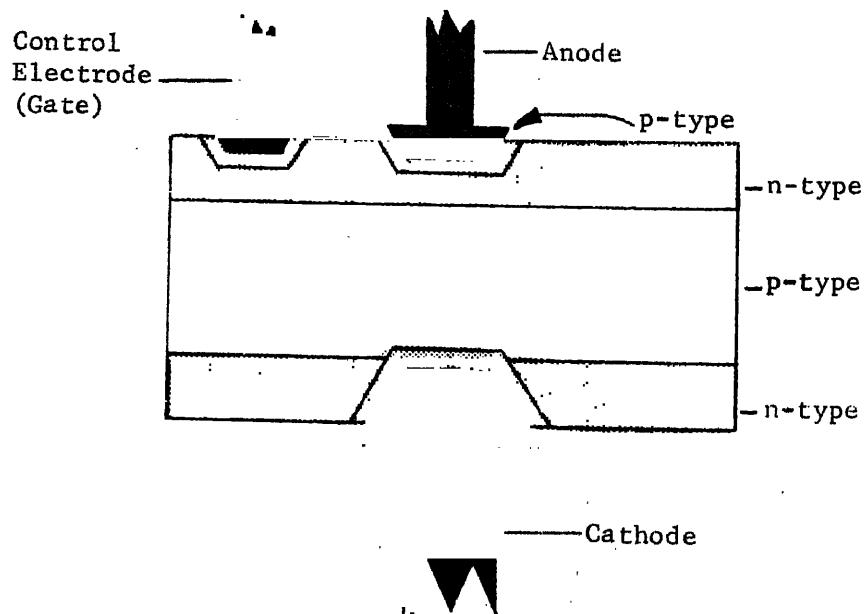

FIGURE 3: CONSTRUCTION OF A CONTROLLED RECTIFIER
14. The Silicon Controlled Rectifier (also called a PNPN device, Thyristor or Controlled Rectifier) is a four-layer semiconductor device, with a structure of the form shown below (figure 3).